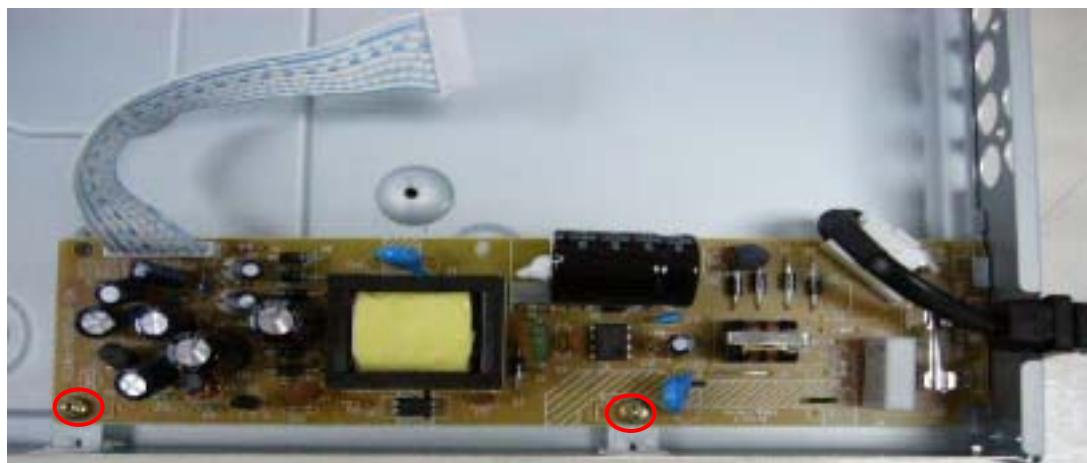

Figure 8
Step7: Remove the 3 screws on power board to dismantle the power board. (Figure8)